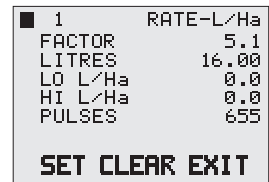

Figure 21: Liquid product Rate calibration screen
2. Press **ENTER** to edit the input function and use the **NAV** keys to select the **RATE** option in the desired units, as shown in Figure 21.
- The Jackal assumes that the Pressure Sensor output changes linearly with a change in pressure, as shown in Figure 21. In practice sensors may not be perfectly linear. It is recommended that pressure sensors used are operated in the linear region of sensor output.